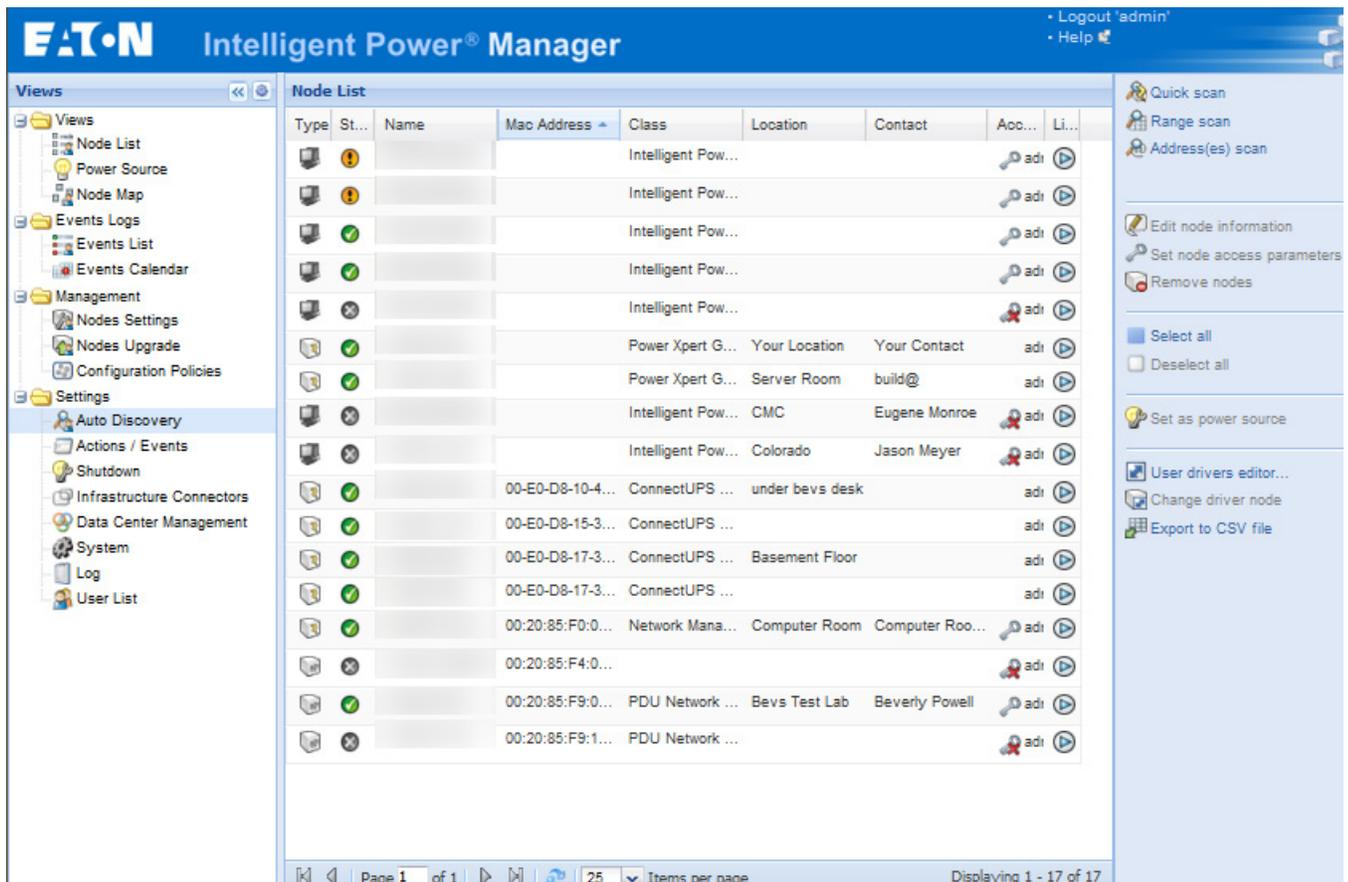

Figure 8. Node List Page from Auto Discovery
2. From the right panel, select a discovery method (see Figure 8):